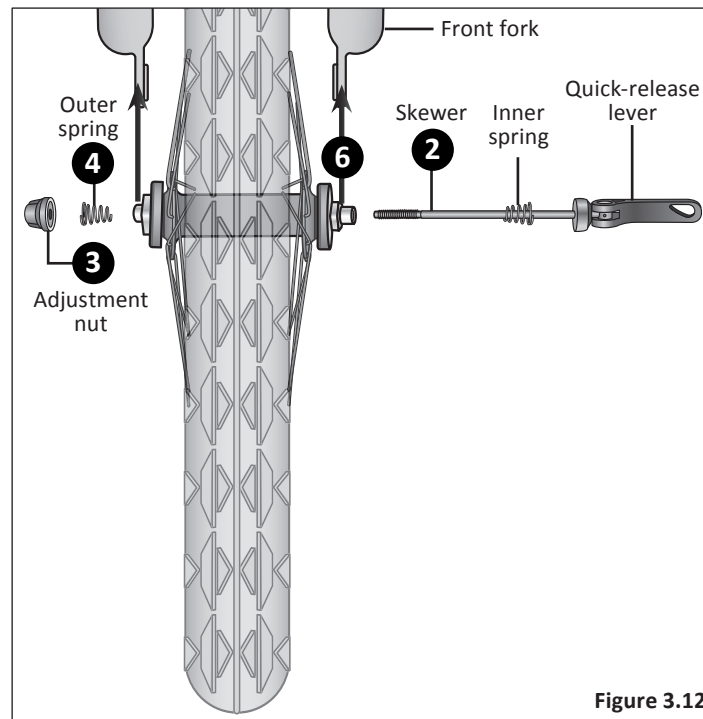

Figure 3.12
- 2 Locate the skewer from the small parts carton of your bicycle. **Figure 3.12**